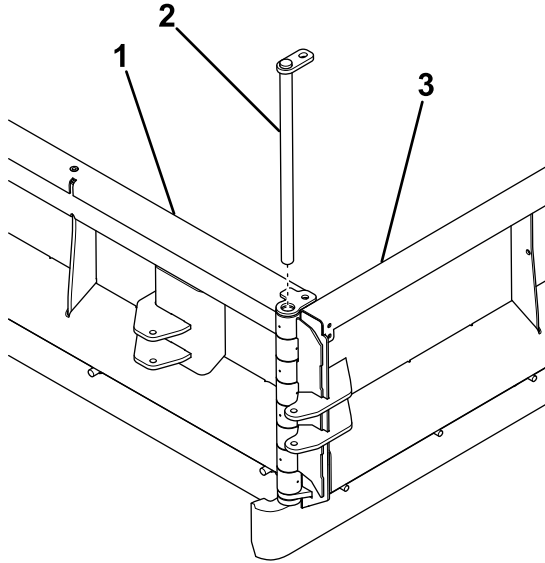

Figure 4
1. Interlock the center blade and blade wing hinges, ensuring the cutting edges are even (Figure 4).
2. Lock the hinges together by inserting the hinge pin down the center (Figure 4).